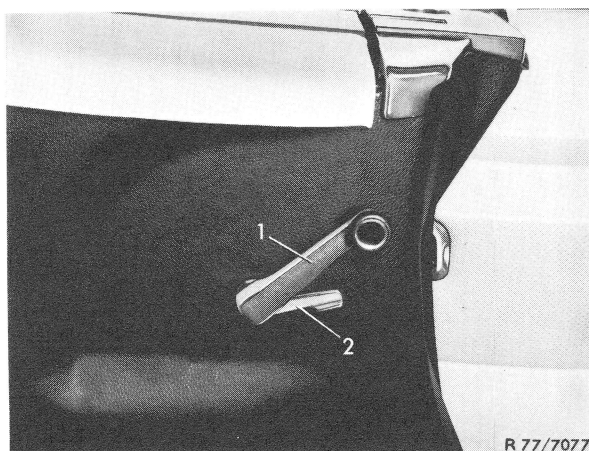

Figure 1
12 Install actuating lever (2) in such a manner that the handle plate faces the driving direction (Fig. 1).